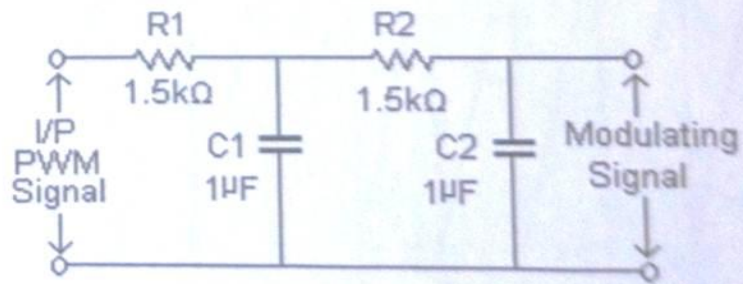

Fig: 2 Demodulation Circuit
7. Feed PWM waveform to the circuit of Fig: 2 and observe the resulting demodulated waveform.